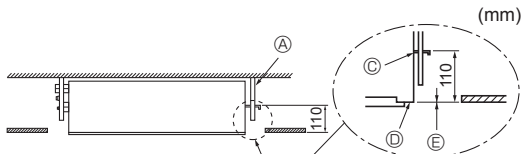

Fig. 2-9
5. Tighten all the nuts. (Fig. 2-9)